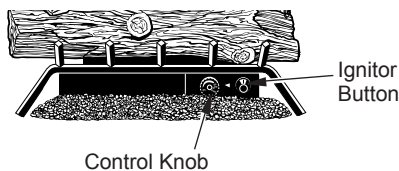

Figure 25 - Control Knob and Ignitor Button Location
4. Wait five (5) minutes to clear out any gas. Then smell for gas, including near the floor. If you smell gas, STOP! Follow "B" in the safety information in column 2, page 18. If you don't smell gas, go to the next step.
5. Turn control knob counterclockwise  to the PILOT position. Press in control knob for five (5) seconds (see Figure 25).